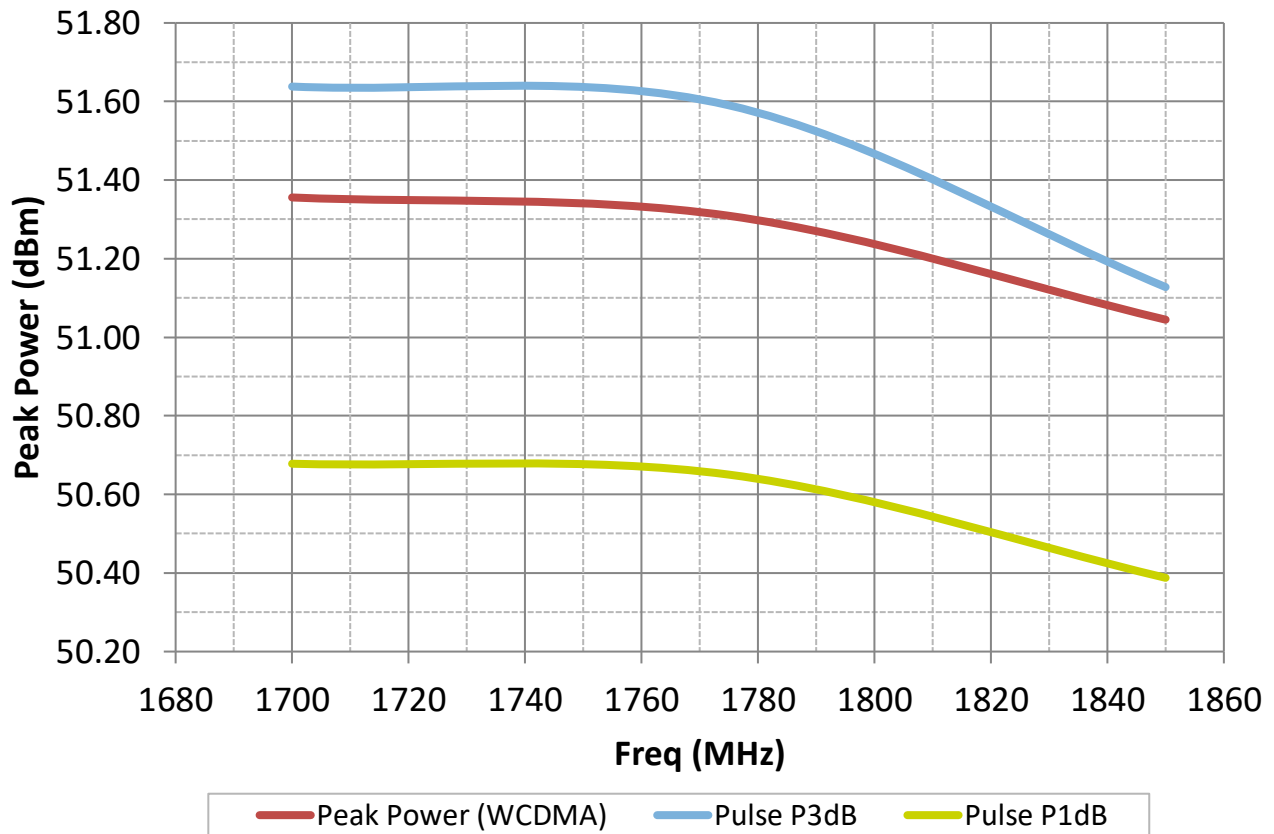

Figure 6. Output compression point vs Frequency
- Figure 6. Output compression point vs Frequency 11